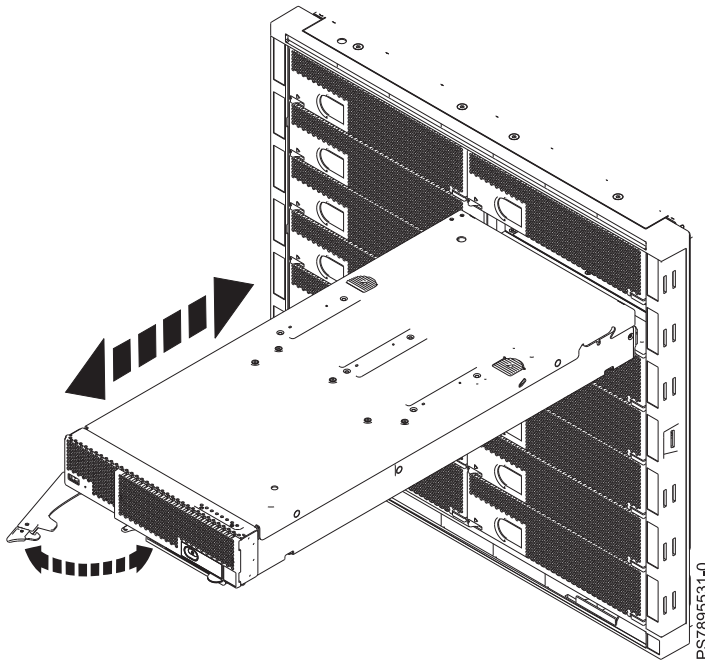

Figure 51. Installing the compute node in an IBM Flex System Enterprise Chassis
5. Verify that the release handle on the compute node is in the open position (perpendicular to the compute node, as shown in Figure 51 on page 92).